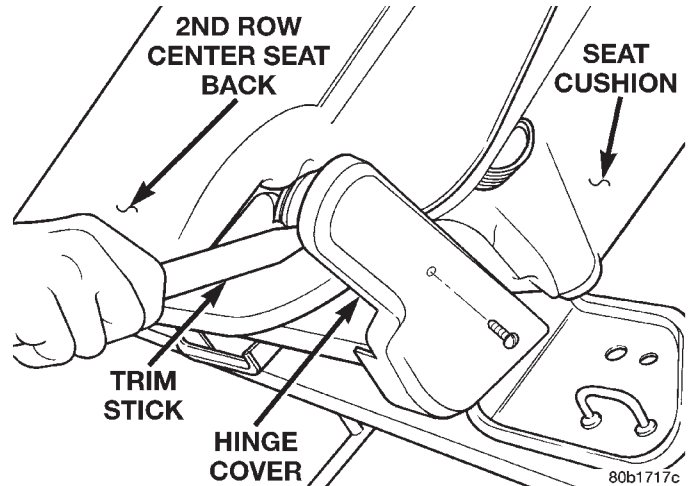

Fig. 12 2nd Row Center Seat Back Hinge Cover
- (1) Tumble outboard seats forward.
- (2) Remove screw attaching cover to hinge.
- (3) Using a trim stick, pry trim covers from center seat back to center seat cushion hinge (Fig. 12).